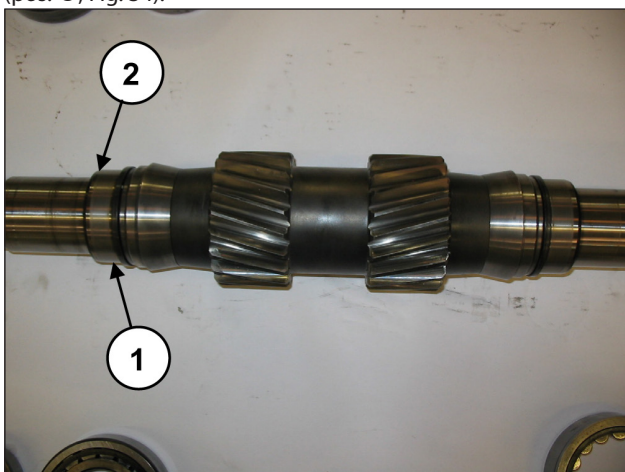

Fig. 34
Remove the internal bearing rings from the PTO shaft (pos. ①, Fig. 34) and also take out the two internal bearing spacers (pos. ②, Fig. 34).